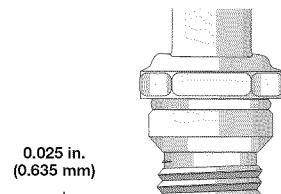

Fig. 19
4. Replace cracked, fouled or dirty spark plug. Set the air gap at 0.025 in. (0.635 mm) using a feeler gauge (Fig. 19).